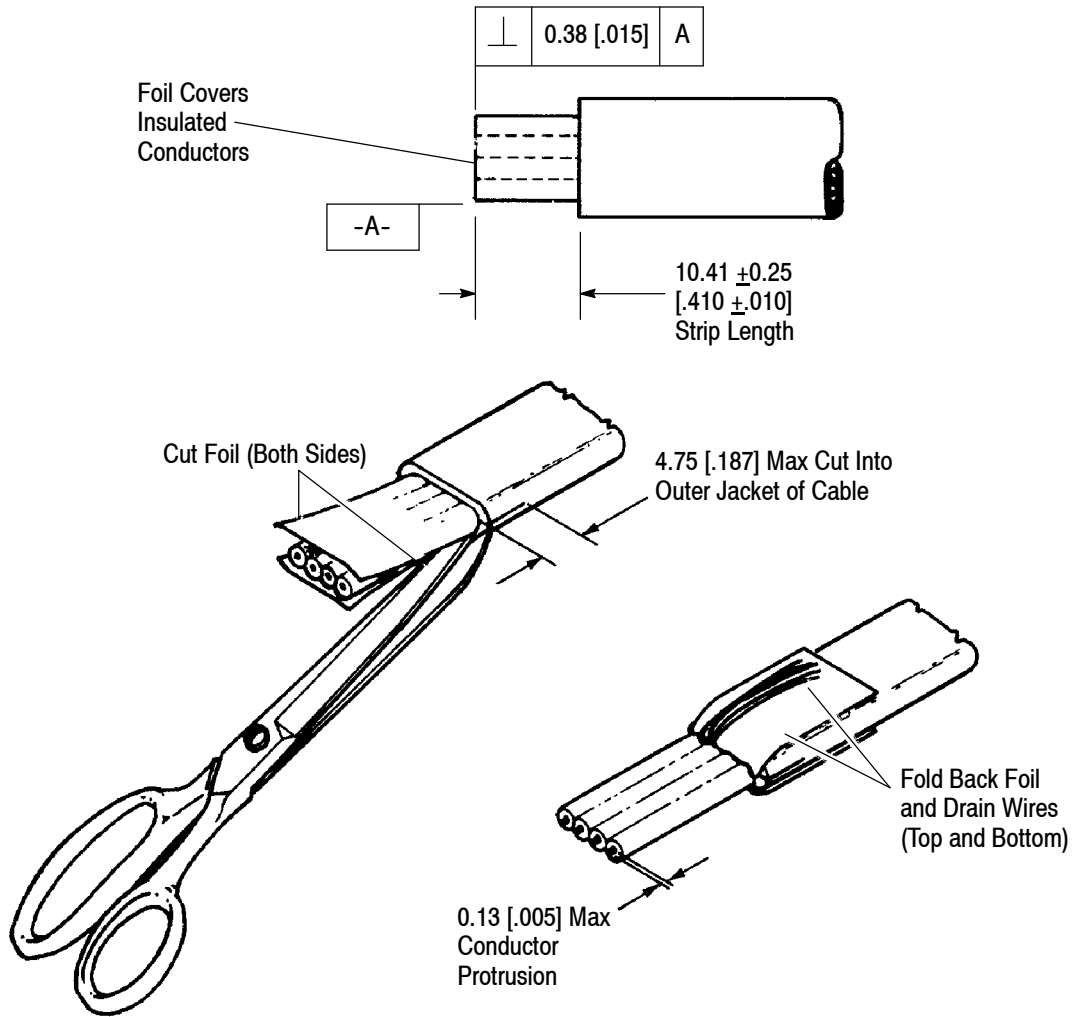

Figure 3
Cable shall be prepared as indicated in Figure 3. The continuity to the end of the conductors shall be preserved when stripping the cable jacket.
*Prepare the cable for use with the guide/adapter by stripping the cable to a length of 11.68 ±0.25 mm [.460 ±.010 in.]. Do not strip the cable to the length shown in Figure 3.*